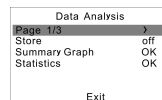
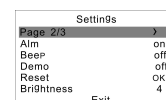

Figure 3.4.1
Figure 3.4.2
Long-press on the power button, the oximeter will display Data Analysis page as shown in Figure 3.4.1. When the bar is on the second row, long-press make the screen display the next page as shown in Figure 3.4.2~3.4.3.
Just before going to bed, select the item of "Store", change it's status to "on", select "OK" when the display is shown as Figure 3.4.1. Then put the finger into rubber hole of the oximeter to start a new continuous measurement. Take off the oximeter 2 hours later or after getting up, the oximeter will shut down automatically after the finger is taken off. When storing mode working, the oximeter will display "Sto" and battery volume alternately in the same position of screen. The maximum of recording time is 8 hours.
first or last page. Select \square to return Figure 3.4.1.
3.5.1 Settings in Figure 3.4.2